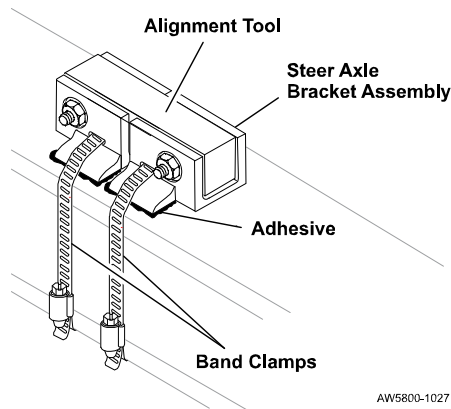

Figure 8. Placing Brackets on the Steer Axle
4. Place a band clamp (P/N: 139-0016-000) through the slot in the bottom of each bracket and wrap the band clamp around steer axle. See Figure 8.